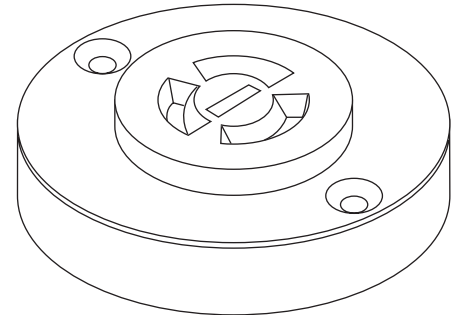

FIG. 1
Loosen two (2) flathead screws sufficiently to allow rotation of the receptacle **FIG. 1**. Insert screwdriver into center slot to rotate receptacle until indicator arrows points north. Hold receptacle in position and retighten screws firmly. Insert photoelectric control and twist it to a locked position. The photocontrol must contain a soft, resilient gasket fastened to the bottom surface to assure a proper weather seal between the control and the receptacle.